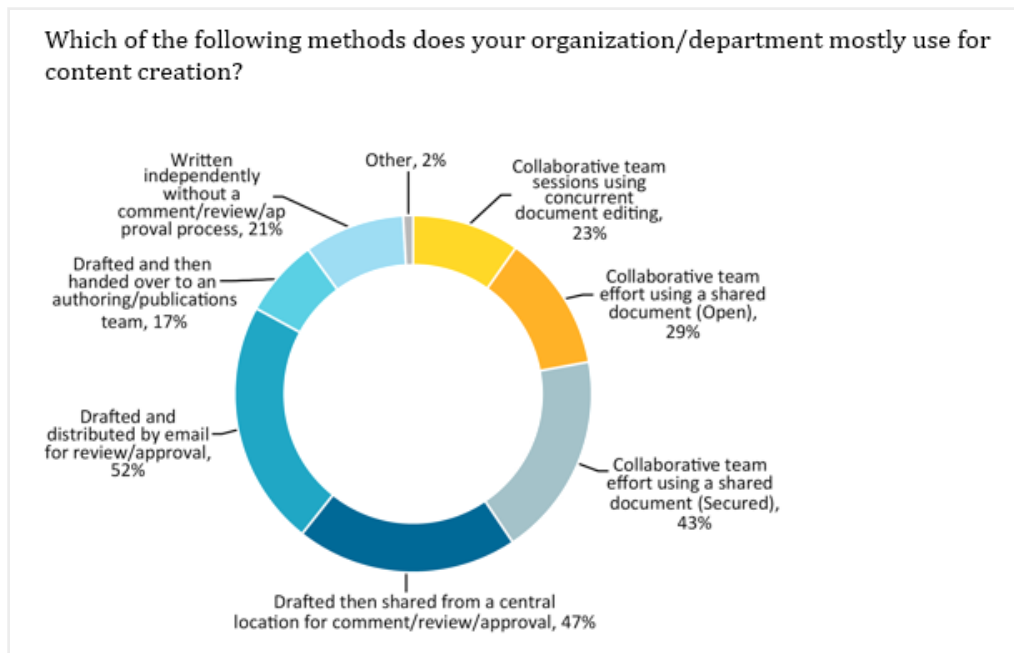

Figure 2
1. Compared to 2015, where AIIM found that nearly 80% of organizations relied on email for collaboration, in 2017, the use of email has decreased to 52%. (Figure 2).